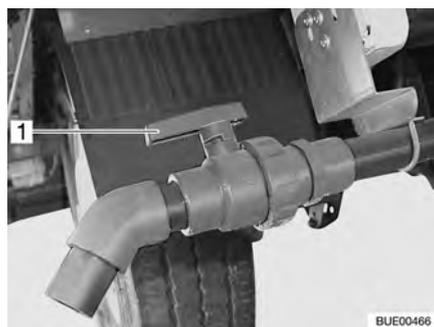

Fig. 204 Drain cock
- Turn the handle (Fig. 204,1) of the drain cock in flow direction.